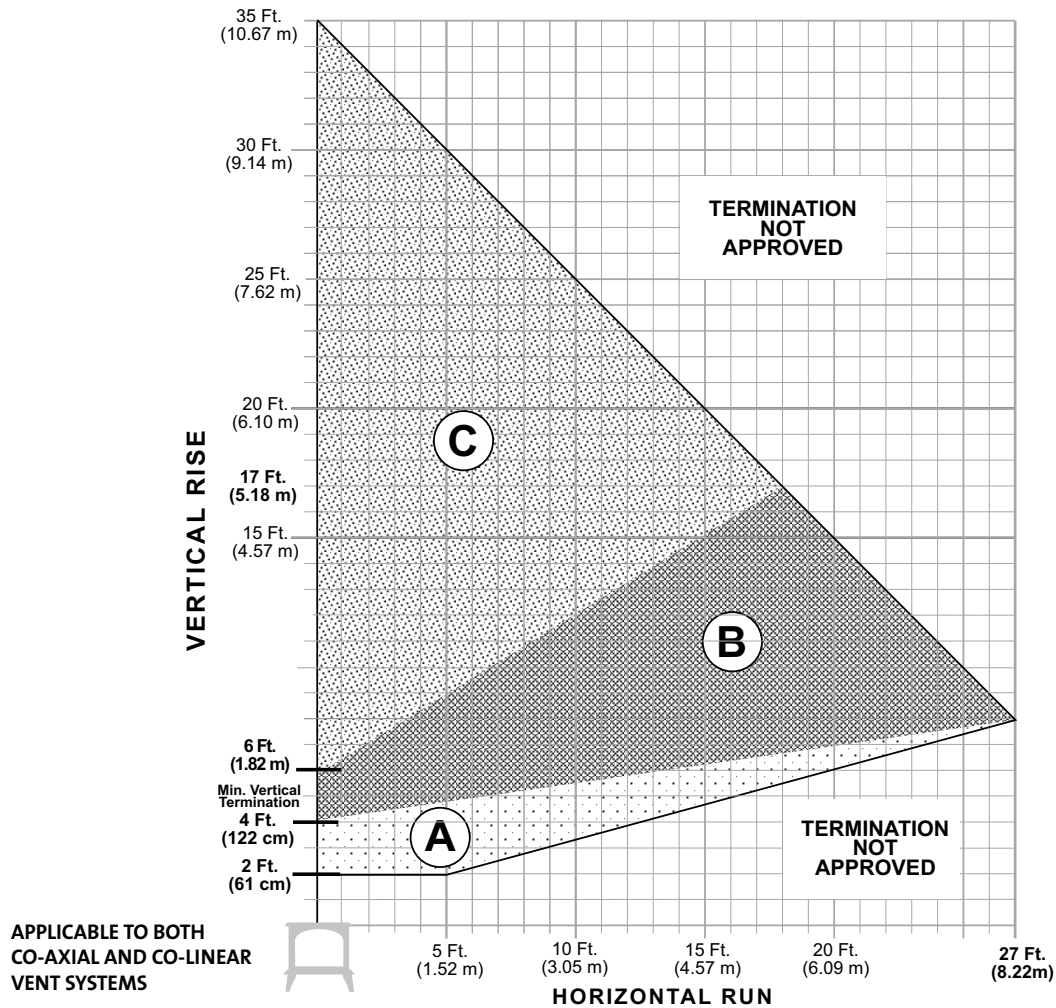

Figure 4.9. Vent Termination Zone Matrix - NG / LP
The circled letter designations in the vent matrix in figure 4.9 correspond to the Exhaust Restrictor dial settings on the stove. First, determine which vent termination zone is appropriate for your installation, then adjust the restrictor to the corresponding position as shown in figure 4.9.
- The termination should fall within the shaded areas of the grids depicted in the Vent Matrix, fig. 4.9, page 11.
- Any horizontal termination must fall within the shaded portion of the vent window matrix shown in fig. 4.9.